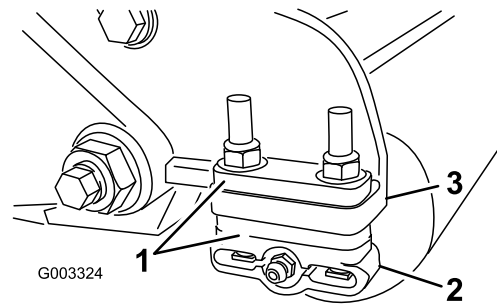

Figure 19
1. Adjust the rear roller brackets (Figure 19) to the desired height-of-cut range by positioning the required amount of spacers below the side plate mounting flange (Figure 19) per the HOC Chart.